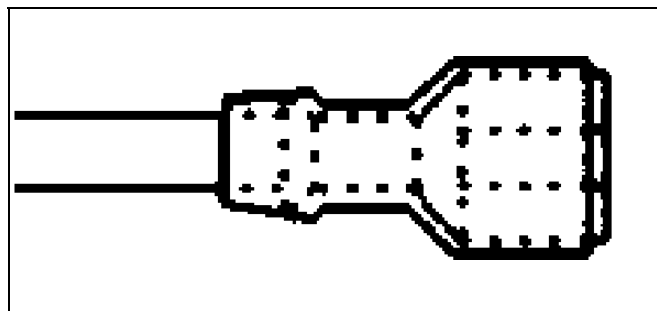

FIGURE 4
8. Crimp terminal (Prévost #560488) on orange wire (ORA). Cut a piece of 1-½ inch long heat shrink tubing (Prévost #062490) and insert piece over terminal. Heat shrink piece of tubing (refer to figure 4). Connect terminal to REM connector of RCF amplifier.
- Crimp terminal (Prévost #560488) on orange wire (ORA). Cut a piece of 1-½ inch long heat shrink tubing (Prévost #062490) and insert piece over terminal. Heat shrink piece of tubing (refer to figure 4). Connect terminal to REM connector of RCF amplifier.
9. Crimp terminal (Prévost #560488) on orange wire (ORA). Cut a piece of 1-½ inch long heat shrink tubing (Prévost #062490) and insert piece over terminal. Heat shrink piece of tubing (refer to figure 4). Connect terminal to REM connector of RCF amplifier.